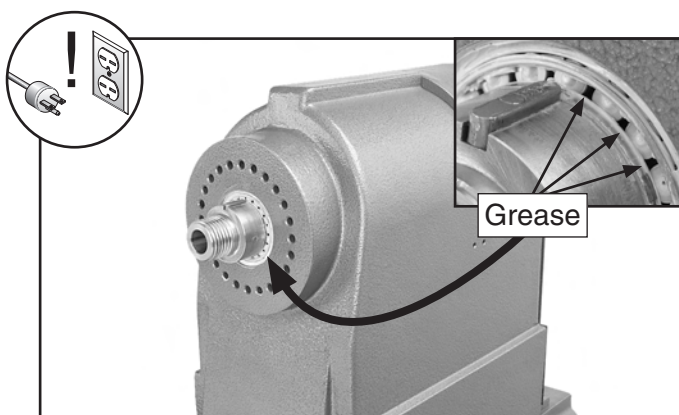

Figure 48. Location to add grease in between roller gaps.
7. Use a grease gun with a needle adapter to insert lithium grease into the spaces between each of the rollers shown in **Figure 48**.